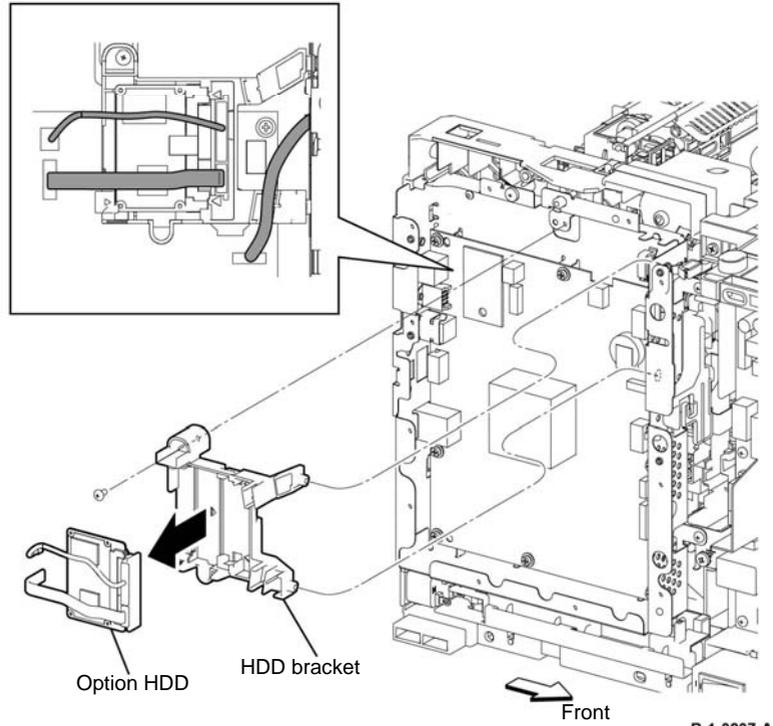

Figure 3 HDD and HDD bracket removal
13. Disconnect P/J631, then remove the harness from the HDD bracket, Figure 3.
14. Disconnect P/J302 and P/J310, then remove the option HDD, Figure 3.
15. Remove one screw (silver, M3, 6mm), then release the two bosses to remove the HDD bracket, Figure 3.